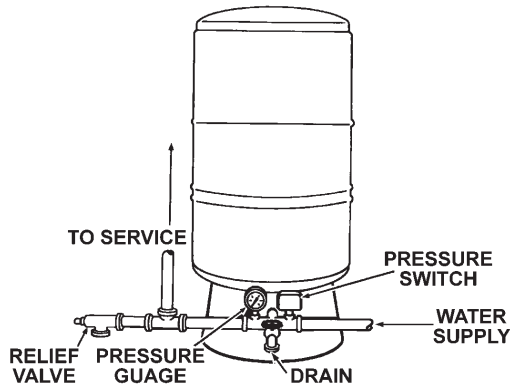

FIGURE 1.
2. Set and position new tank on a firm, level surface with adequate drainage. Typical installation shown in figures 1 & 2.